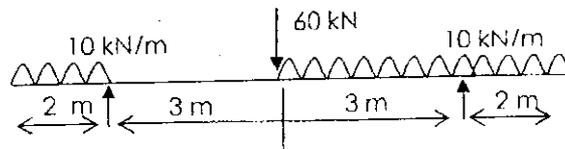

Fig. 1
12. (a) Draw the shear force and bending moment diagram for the overhanging beam shown in figure 1, Locate the point of contraflexure if any.